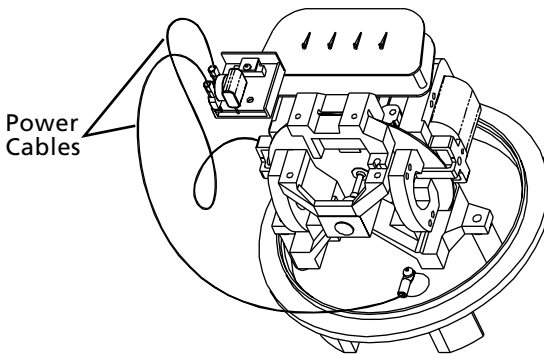

Figure 12. Attaching Power Cables to WOPI
5. Attach the power cable to the WOPI. See Figure 12.